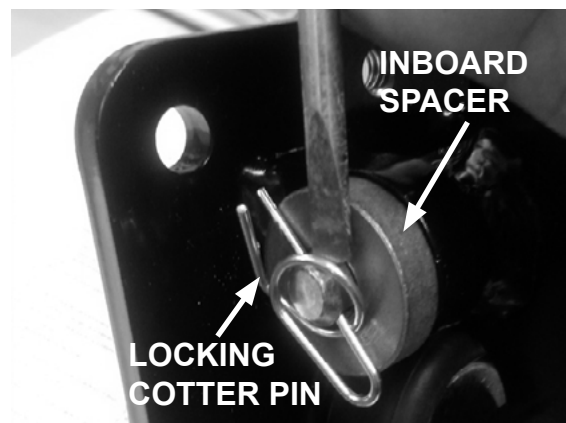

Figure 2
2. Using a standard screw driver and needle-nose pliers, remove the locking cotter pin, and discard (See Figure 2).
3. Remove the inboard spacer and set aside for reinstallation (See Figure 2).